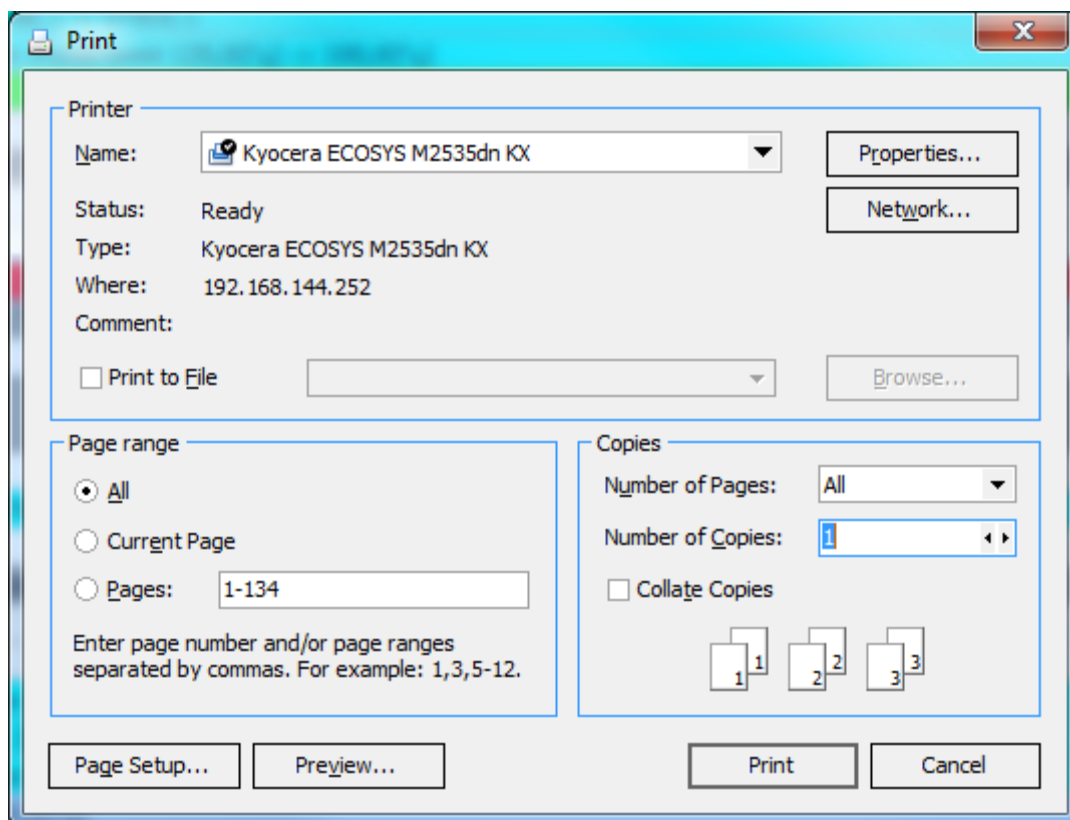

Fig. 40
- Press  on the toolbar or hot keys CTRL+P on the keyboard. The relevant dialog will appear (see Fig. 40).